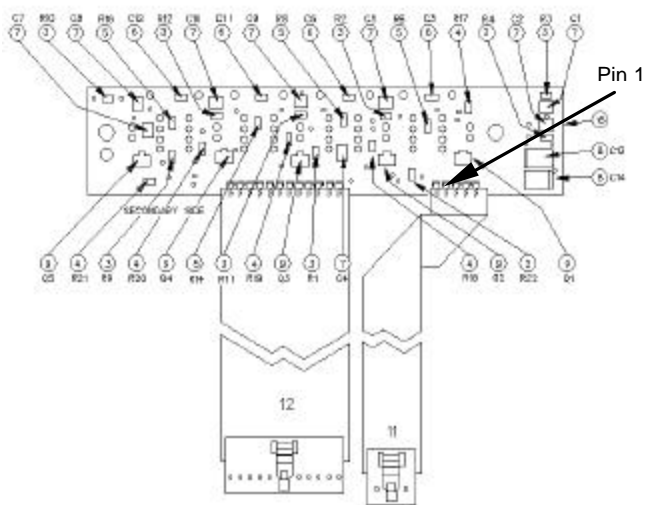

Figure 7-4-2
4. Power to the Strip Detector can be checked on the back of the strip detector PCB (Refer to figure 7-4-2). Place the NEG lead of the DVM on Pin 1,4,or 5 which are GND (The meter can also be connected to the power supply chassis for the DC ground).